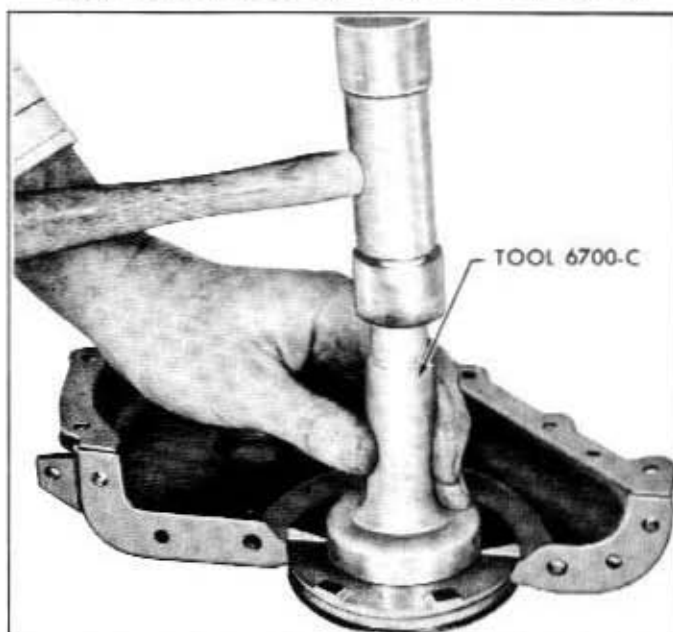

Fig. 6A-80—Crankshaft Front Oil Seal Installation—(60C-5650)
2. Coat a new seal with grease and install the seal. See figure 6A-80. Drive the seal in until it is fully seated in the recess. Check the seal after installation to be sure the spring is properly positioned in the seal.
1. Position the sprockets and timing chain on the camshaft and crankshaft. Be sure the timing marks on the sprockets and chain are positioned as shown in figure 6A-79. Install the camshaft sprocket capscrew and washer. Install the crankshaft front oil slinger. There is a pointer on the oil slinger which lines up with the camshaft sprocket timing mark.